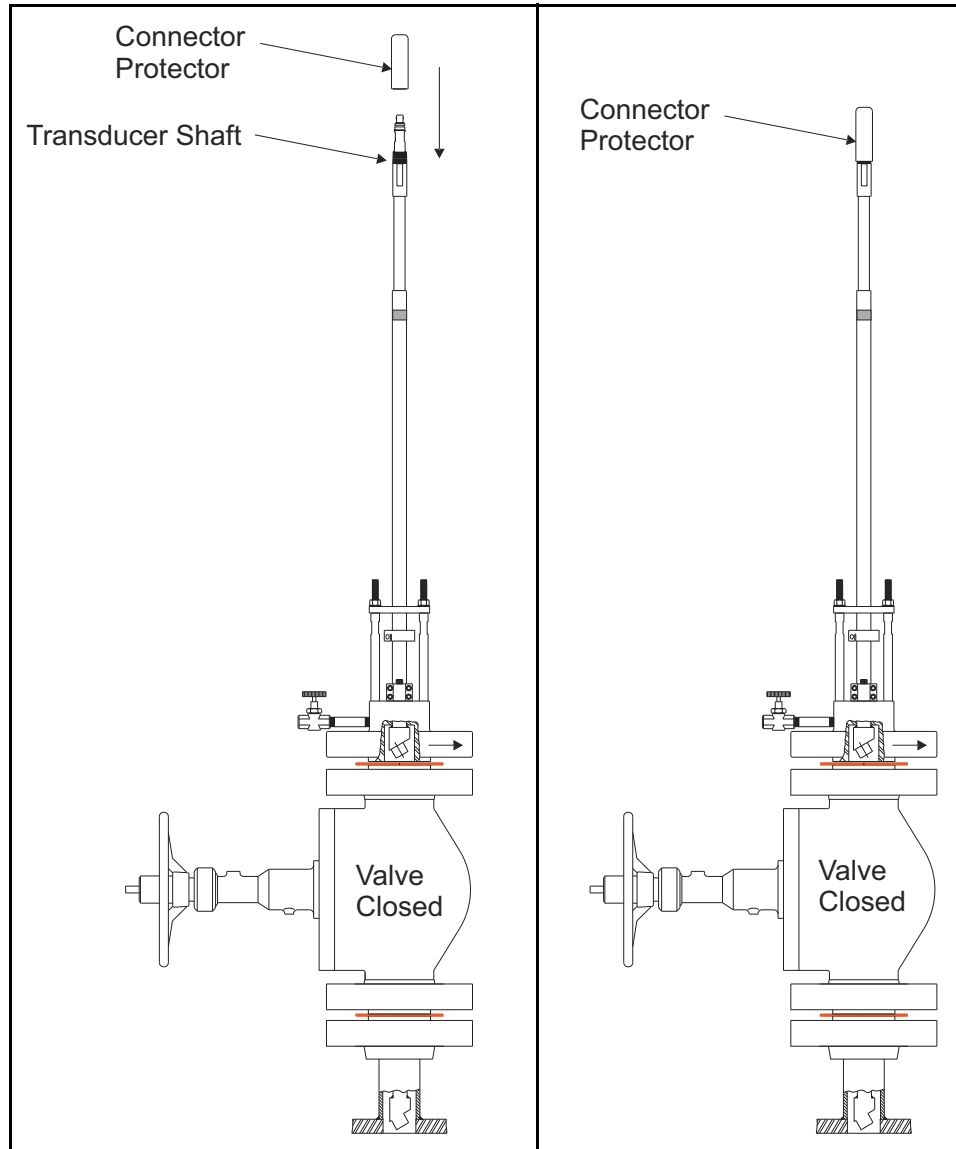

Figure 19: Installing the Connector Protector
1. Install the connector protector on the 1/2" NPT thread of the transducer shaft until it is finger-tight (see *Figure 19* below).